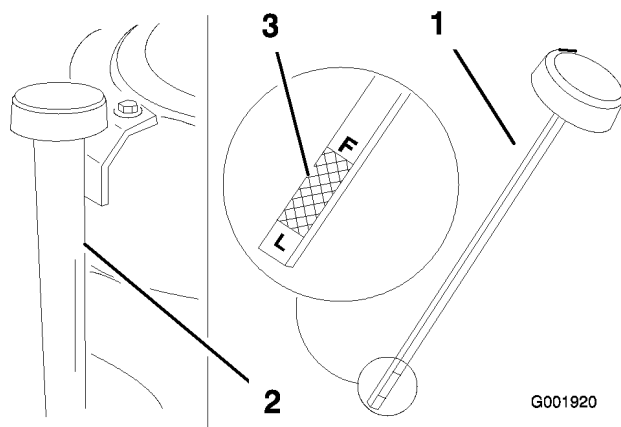

Figure 32
- Clean around the oil dipstick (Figure 32) so that dirt cannot fall into the filler hole and damage the engine.
- Unscrew the oil dipstick and wipe the end clean (Figure 32).
- Slide the oil dipstick fully into the filler tube, but do not thread onto tube (Figure 32).
- Slowly pour approximately 80% of the specified oil into the filler tube (Figure 32).